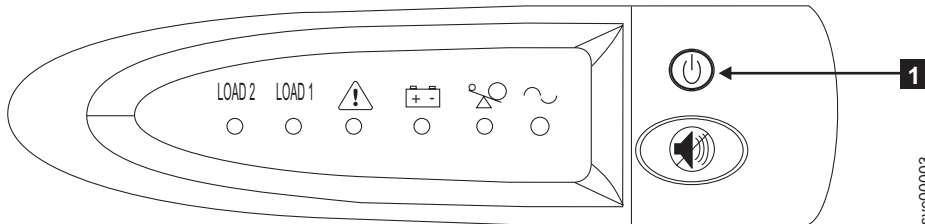

Figure 298. The 2145 UPS-1U front-panel assembly
1. At the front of the 2145 UPS-1U, press and hold the on/off button ( **1** in Figure 298) until the power light is extinguished (approximately five seconds). On some versions of the 2145 UPS-1U, you need a pointed device, such as a screwdriver, to press the on/off button. The 2145 UPS-1U enters standby mode.